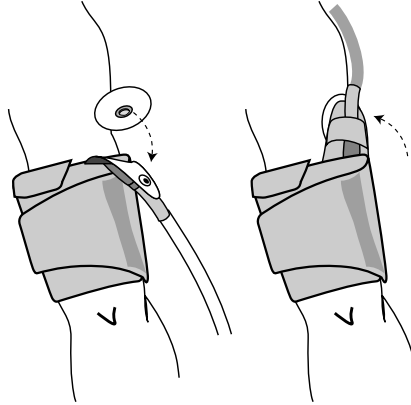

Fig 5 - Clicking an adhesive patch onto the stabilising flap and placing it on the patient's arm.
- Once the test measurements have confirmed that the Diasys is working properly, click an adhesive patch onto the stabilising flap behind the air tubing and place it on the patient's arm to ensure that the cuff stays in place during the whole of the monitoring (fig 5).